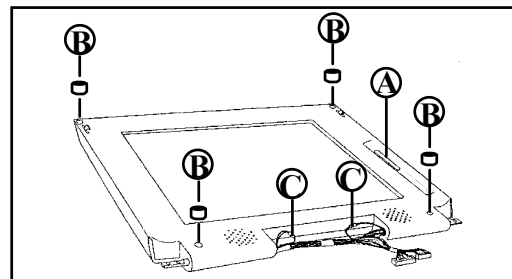

FIGURE 6-2
- (a). REMOVE THE BRIGHTNESS SLIDER (FIGURE 6-2 A).
- (b). REMOVE THE FOUR CUSHIONS AND FOUR SCREWS INSIDE (FIGURE 6-2 B).
- (c). UNPLUG THE TWO SPEAKER CABLES (FIGURE 6-2 C)